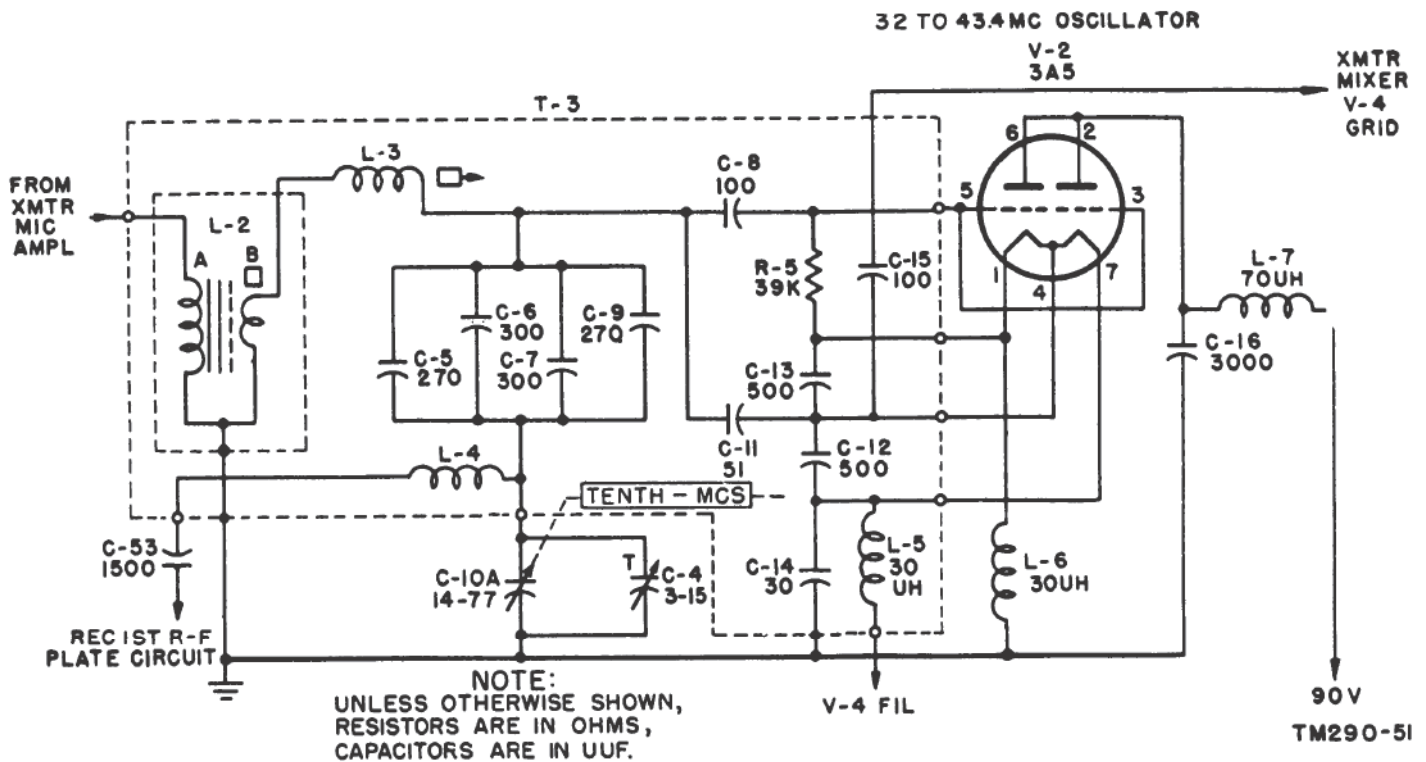

Figure 13. Reactance modulator and 32- to 43.4-mc oscillator circuits, functional diagram.
The 32- to 43.4-mc oscillator frequency is modulated by varying the inductance of coil L2B connected in series with oscillator tuning coil L3 (fig. 13). The inductance of this small modulating coil is changed by varying the permeability of the iron dust core upon which it is wound. To accomplish this, the coil is placed in the magnetic field of larger AF coil L2A, which is energized by the microphone amplifier when the operator talks into the carbon microphone connected to the receiver-transmitter. The iron dust core is also magnetically biased by a permanent magnet to provide a proper center operating point. Modulation is represented by a shift of about ± 15 kc in the frequency generated by variable oscillator V2, and ultimately by a shift in the overall carrier frequency.
20. Common 32- to 43.4-mc Oscillator V2 (fig. 13)
b. Colpitts Arrangement. The arrangement of the oscillator into a Colpitts circuit is shown in figure 13. The grid is coupled to the resonant circuit by means of capacitor C8. Regenerative feedback from the plate-filament circuit necessary to sustain oscillation is provided through capacitor C14. Capacitors C11 and C14 constitute the conventional Colpitts voltage-dividing circuit. Capacitor C16 is a plate supply bypass. Its high value effectively places the plate at ground potential for RF. Capacitors C12 and C13 serve to place all portions of the filament at the same RF potential.
(fig. 13)